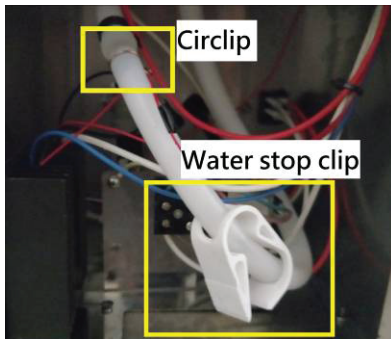

Figure 1
3. A white water pipe tube and hose shutoff clamp can be seen inside of brewer (Figure 1)